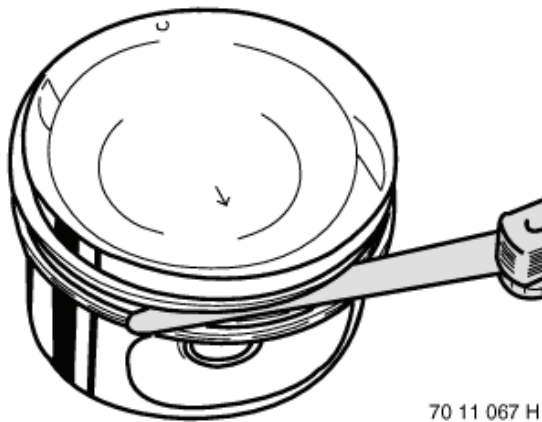

Figure 5-50
5. Install a new piston ring. Use a feeler gauge to measure the side clearance between the ring and the piston (**Figure 5-50**). Replace the piston if not within specification. Repeat with the second ring.